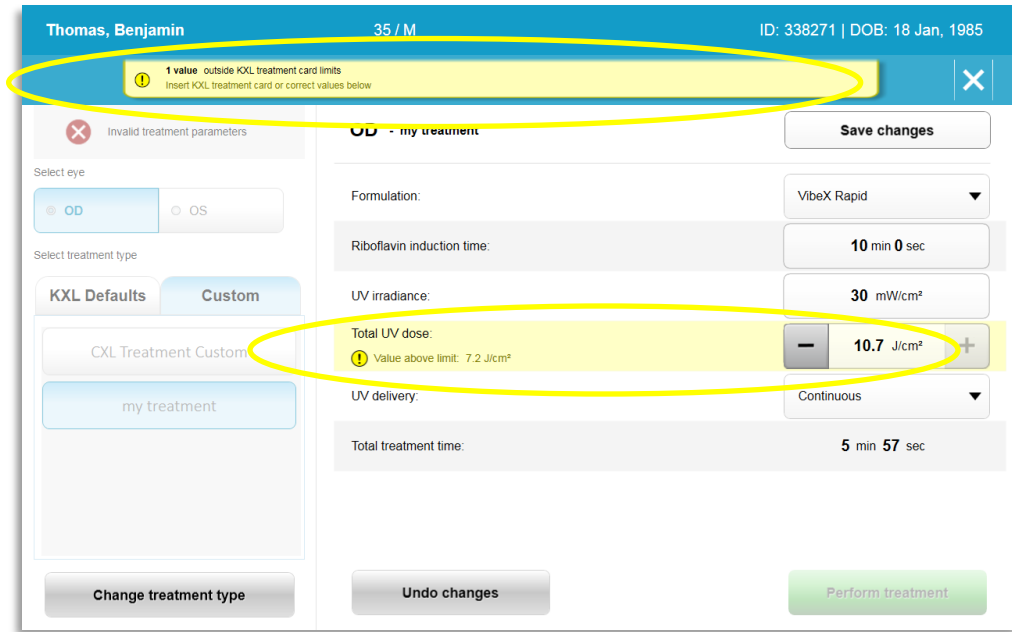

Figure 3-15. Invalid Treatment Parameters
- If no treatments remain on the card, the system alerts the user to insert a different card as shown in Figure 3-15.